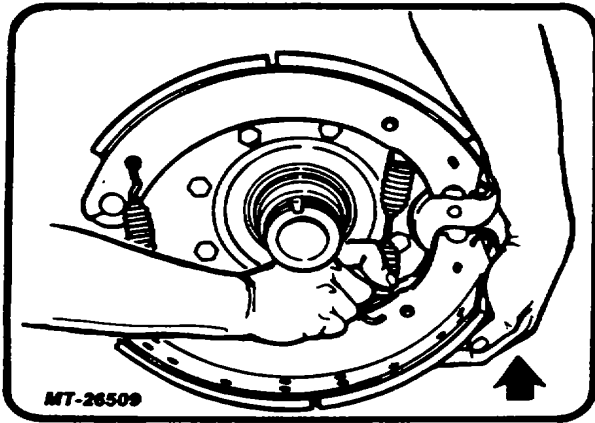

Fig. 14. Remove Shoe Return Spring
- After removing roller assemblies, the shoe return spring will be loose and can be slipped from the links between shoe webs (Fig. 14).